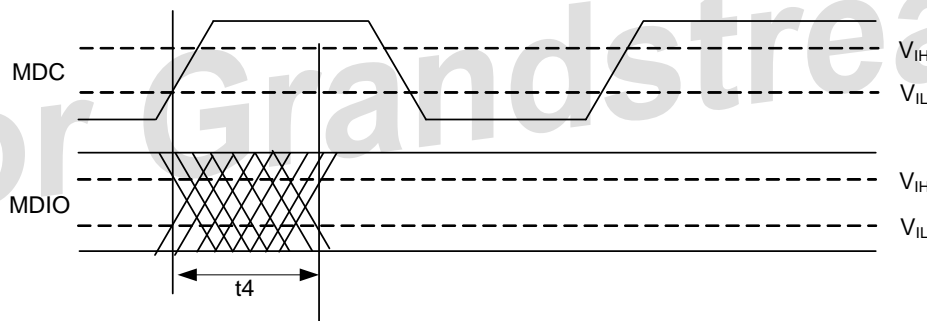

Figure 18. MDIO Sourced by RTL8218D (Slave)
- The timing characteristics  $t_4$  (Figure 18) of the Slave (RTL8218D) are provided by the RTL8218D when the RTL8218D sources the MDIO signal (Read command)